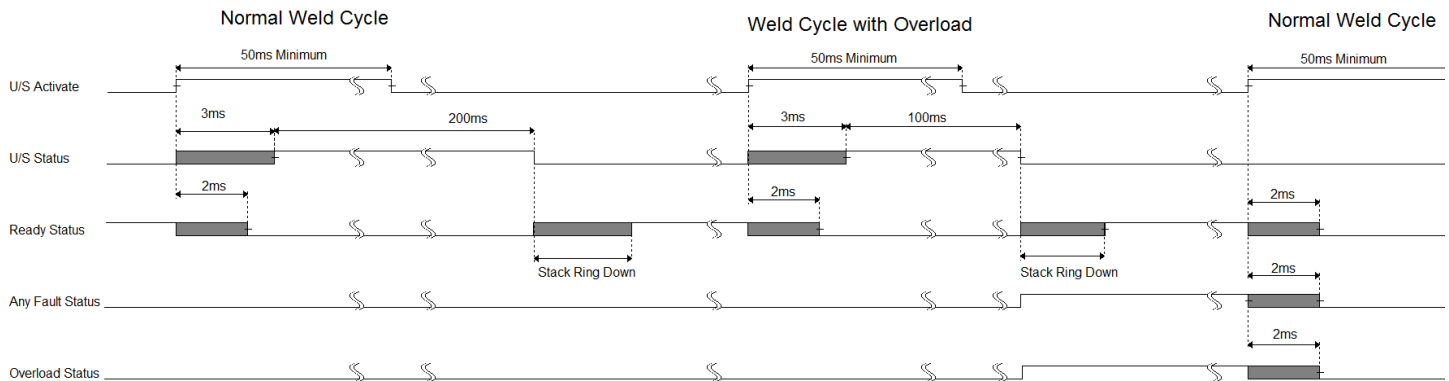

Figure 3: iQ Auto Plus Weld cycle (Weld-by-Time)
**Normal weld cycle:** This is a Weld-by-Time cycle, meaning the Ultrasound output lasts as long as the Time Setting which is 200ms in this case. An Auto Plus generator requires communications interface such as Ethernet/IP to configure the weld by Time, Peak Power, and Energy settings. While it is strongly recommended that the communications network be used instead of the discrete I/O, the network and discrete I/O can be used together. Figure 3 shows the timing for weld cycles that were configured via the network interface, but ultrasound is activated using the US Activate input instead of the network. As with Weld-by Automation the Ready Status output should be used to determine if the generator is ready to start a new weld cycle. As seen in Figure 3 a minimum of 4.8ms is required for the Ready Status output to change state after the activation of the U/S Activate input. The stack ring down time, which is stack and application dependent, may make this time much longer. For correct operation a PLC controlling an iQ Auto Plus must delay at least 4.8ms after activating the U/S Activate input before checking the Ready Status output. Since U/S Status takes up to 6.6ms to change state, a 6.6ms minimum delay is required when monitoring this output. If a network is connected to the generator then the US Activation can be controlled by the network. The same is true for monitoring the status outputs. The delays will vary with the network based on network settings, number of devices on the network, etc.